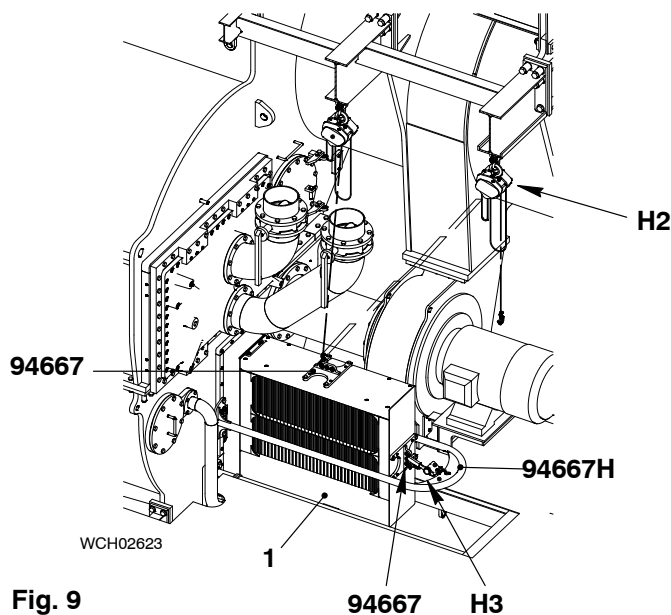

Fig. 9
- 8) Operate the manual ratchet (H3, Fig. 9) to pull the water separator (1) from the receiver. At the same time, operate the chain block (H1) to hold the weight of the water separator.
- 10) Remove the tool (94667) from the front of the water separator (1).
- 11) Attach the chain block (H2) to the tool (94667) on top of the water separator (1).